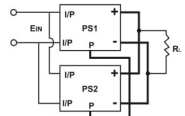

Figure 7: Wiring of S.P.S. with built-in parallel function
- (1) S.P.S. With Built-In Parallel Function: Connecting "P" terminals together such as the PSP models ("G" terminal also need to be connected together). Input/output should be connected in parallel first and then connect to the AC source/load just as figure 7 (some S.P.S. need a minimum load after paralleling).